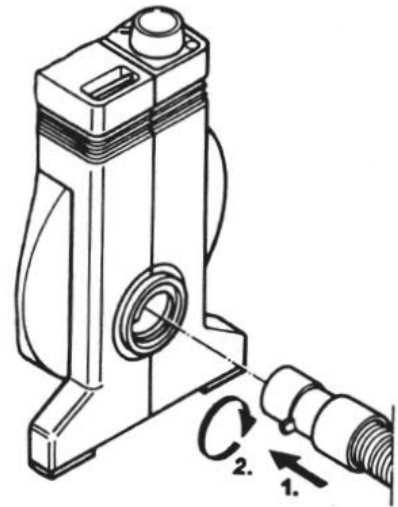

Fig. 2
- Connect the air hose to the Blower by turning the air hose connector clockwise in the blower opening (fig. 2).